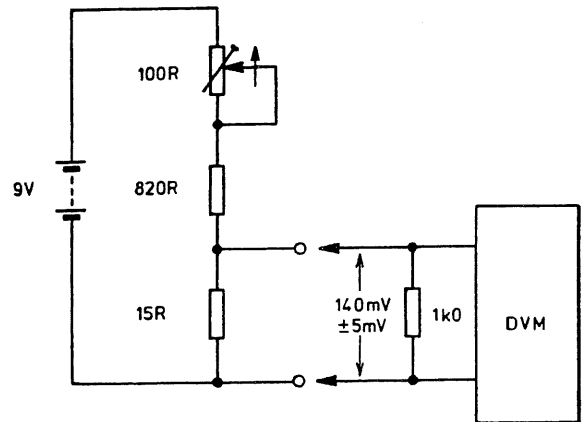

Fig. 4.1 Voltage Source
4.14 Voltage Source      Floating 140mVdc source (eg battery & resistive divider network), accuracy  $\pm 5\text{mV}$  with 1k $\Omega$  load (Fig. 4.1)